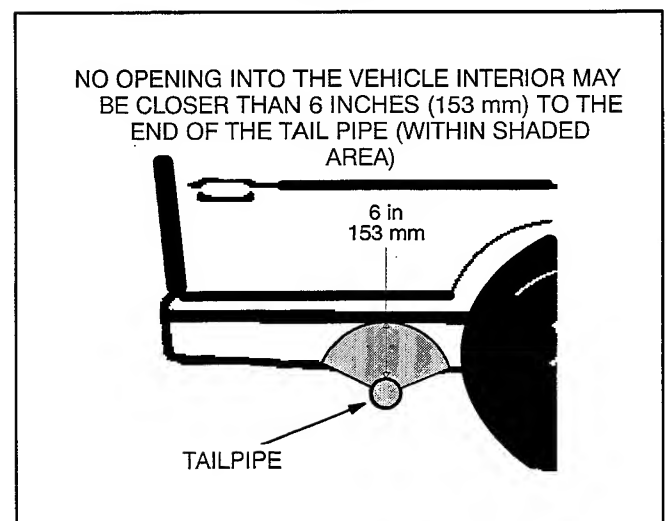
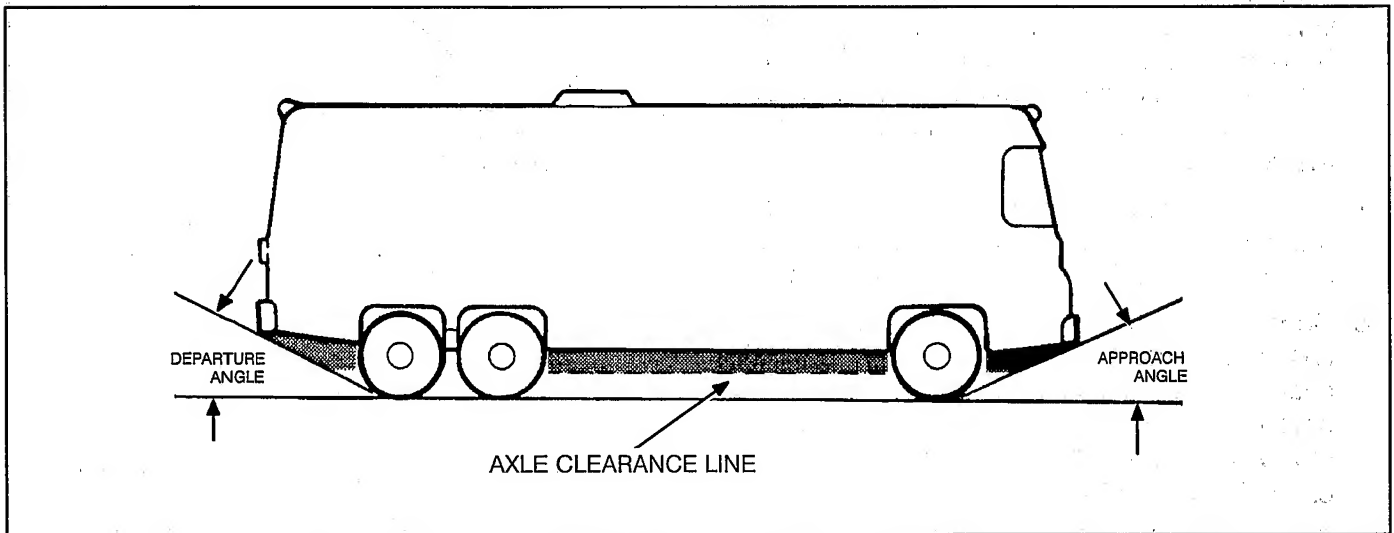

FIGURE 9. MINIMUM DISTANCES TO OPENINGS
FIGURE 10. APPROACH AND DEPARTURE ANGLES AND AXLE CLEARANCE LINE
⚠ WARNING ***EXHAUST GAS IS DEADLY! Keep exhaust gases from entering the vehicle. Do not terminate the exhaust tailpipe underneath the vehicle or closer than specified to openings into the vehicle (Figure 9) or route it such that it is likely to be damaged (Figure 10). Use approved materials and parts only.***
10. Do not terminate the tailpipe such that it is closer than 6 inches (153 mm) to any opening into the vehicle interior (door, window, vent). See Figure 9.
12. Route the tailpipe such that it will not likely be struck when the vehicle is moving. At least keep it out of the approach and departure angles of the vehicle and above the axle clearance line (Figure 10).
13. The exhaust back pressure under full load must not exceed 2 inches (51 mm) water column (WC) as measured within 6 inches (153 mm) of the muffler outlet flange.